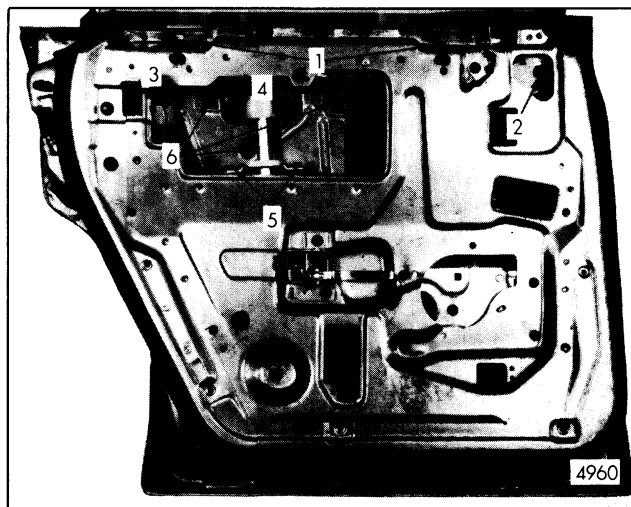
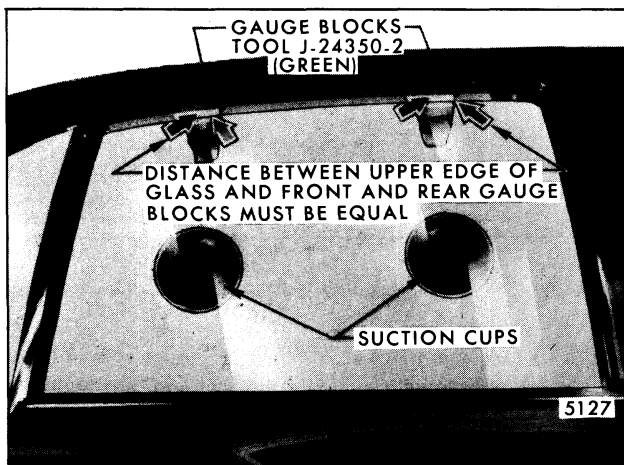
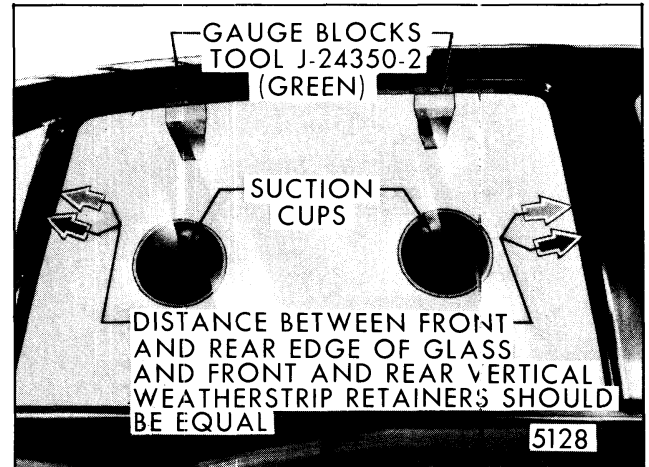
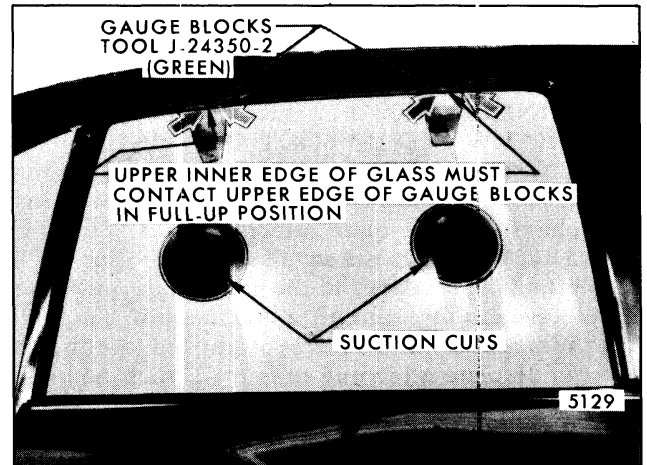

Fig. 5-125-Rear Door Window Removal and Adjustments - "A-29,35" Styles
Fig. 5-127-Rear Door Window Alignment (Rotated "Cocked" Glass in Body Opening)
Fig. 5-128-Rear Door Window Alignment (Fore and Aft Adjustment)
Fig. 5-129-Rear Door Window Alignment (In and Out and Up-Travel Adjustment)
be corrected by loosening front and rear up-travel stops ("2" and "3", Fig. 5-125) and lower sash upper guide assembly ("4", Fig. 5-125 and raising and lowering front edge of glass in relation to rear edge of glass, as required, to parallel upper edge of glass with side roof rail weatherstrip. Then, tighten lower sash upper guide attaching nuts and raise glass to establish proper contact with side roof rail weatherstrip. Tighten up-travel stop bolts. Torque upper travel stop attachment to 60 to 90 inch pounds, torque lower sash upper guide attaching nuts to 72 inch pounds.
2. **WINDOW TOO FAR INBOARD OR OUTBOARD ALONG UPPER EDGE IN RELATION TO SIDE ROOF RAIL WEATHERSTRIP** - To adjust upper edge of glass in or out in relation to side roof rail weatherstrip, loosen belt trim support retainers ("1", Fig. 5-125) and lower sash lower guide assembly ("5", Fig. 5-125) and position glass inboard or outboard as required. Outboard adjustment of the lower guide moves the upper edge of the glass inboard. Conversely, inboard adjustment moves the upper edge of the glass outboard. With glass in a full-up position, repo-
- WINDOW TOO HIGH OR LOW IN RELATION TO SIDE ROOF RAIL WEATHERSTRIP** - To adjust window up-travel, loosen front and rear up-travel stops ("2" and "3", Fig. 5-125) and operate window to desired position to establish proper glass to side roof rail weatherstrip contact. Then torque up-travel stop screws to 60 to 90 inch pounds.
- WINDOW TOO FAR FORWARD OR REARWARD IN BODY OPENING IN RELATION TO WEATHERSTRIPS** - To adjust window forward or rearward, loosen lower sash channel guide plate attaching nuts ("6", Fig. 5-125) and reposition glass as necessary. The attaching locations in the guide plate are slotted to permit fore and aft adjustment of the guide. When glass is properly positioned, torque the guide plate attaching nuts to 72 inch pounds.
- WINDOW MECHANISM BINDS WHEN OPERATING WINDOW ASSEMBLY** - Ease of window operation and window stability depend to a great extent on belt trim support retainers ("1", Fig. 5-125). The support retainers
3. Lower rear door window and install gauge blocks, tool J-24350-2 or equivalent (Green), into the side roof rail weatherstrip retainer (handles protruding inboard), above the upper front and rear corners of the glass, as shown in Figure 5-127. Partially raise glass and install suction cups on interior surface of glass (Fig. 5-127) to enable adjuster to shift glass when making adjustments with door in a closed position.
4. Working from inside the body, with the door in the closed position, loosen front and rear up-travel stops ("2" and "3", Fig. 5-125) and belt trim support retainers ("1", Fig. 5-125).
5. Raise the rear door window assembly to approximately 1" from the full-up position, as illustrated in Figure 5-127. If the distance (space) between the upper edge of the glass and the front
and rear gauge blocks is equal (as shown in Fig. 5-127), proceed with Step 6. If the distance (space) between the upper edge of the glass and both upper gauge blocks is not equal, loosen lower sash upper guide attaching nuts ("4", Fig. 5-125) and adjust glass as necessary.
6. Raise rear door window assembly until contact is established between upper edge of glass and both upper gauge blocks. Determine if the rear door window is centered fore and aft in the window opening. The distance between the front and rear edge of glass and front and rear vertical weatherstrip retainers should be the same, as shown in Figure 5-128. If glass is properly positioned, proceed with Step 7. If rear door window assembly is not properly centered in its opening, loosen sash guide plate assembly attaching nuts ("6", Fig. 5-125), which control the fore and aft adjustment, and move glass forward or rearward as necessary.
7. Loosen lower sash lower guide assembly ("5", Fig. 5-125). Apply firm outboard pressure against the bottom of the lower sash guide plate assembly to remove slack in the system and to hold the upper inner edge of the glass inboard against the outer edge of the gauge blocks, as shown in Figure 5-129. Then, tighten lower guide attaching screws.
8. With the glass in the full-up position against the upper gauge blocks, as shown in Figure 5-129, tighten up-travel stops and adjust belt trim support retainers for proper tension against glass.
2. Remove front and rear up-travel stops ("2" and "3", Fig. 5-125) and belt trim support retainers ("1", Fig. 5-125).
3. Raise window to within two (2) inches of a full-up position and remove lower sash guide plate assembly to glass attaching nuts ("6", Fig. 5-125).